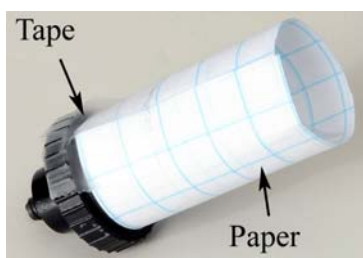

Figure 5. Paper Bumper
19. Create your own bumper! The example shown in Figure 5 is made with thin graph paper rolled into a tube. It was then taped to the base used for the clay bumper. Have a contest!